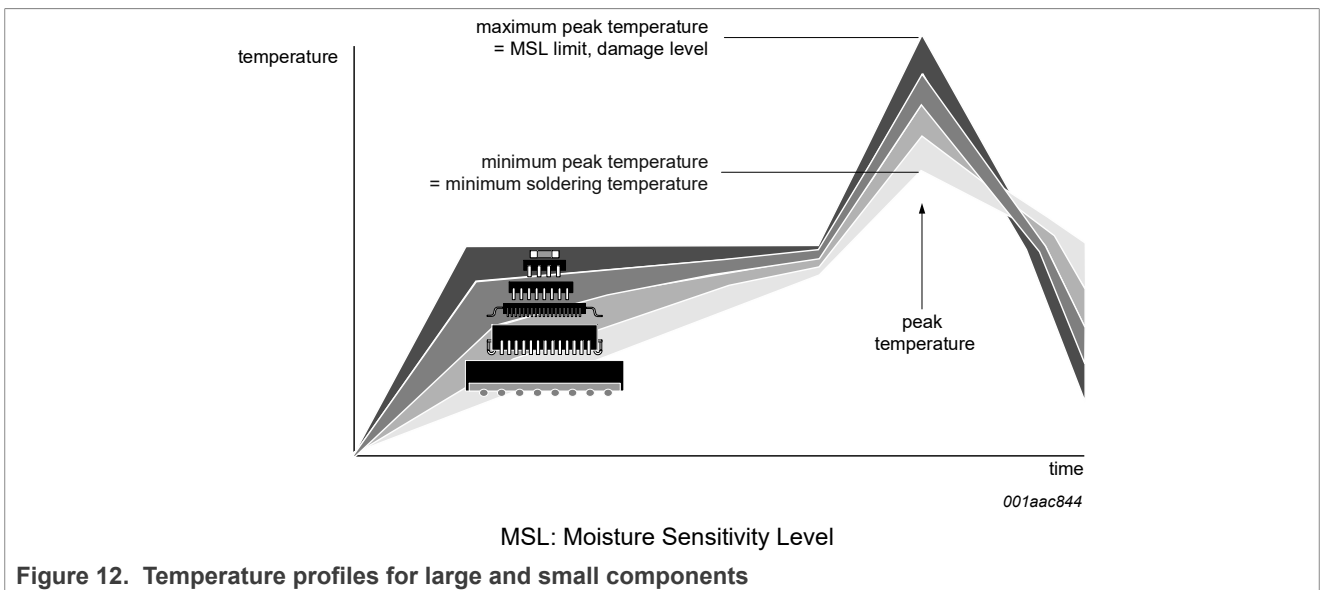

Figure 12. Temperature profiles for large and small components
- Lead-free versus SnPb soldering; note that a lead-free reflow process usually leads to higher minimum peak temperatures (see Figure 12) than a SnPb process, thus reducing the process window
Studies have shown that small packages reach higher temperatures during reflow soldering, see Figure 12.